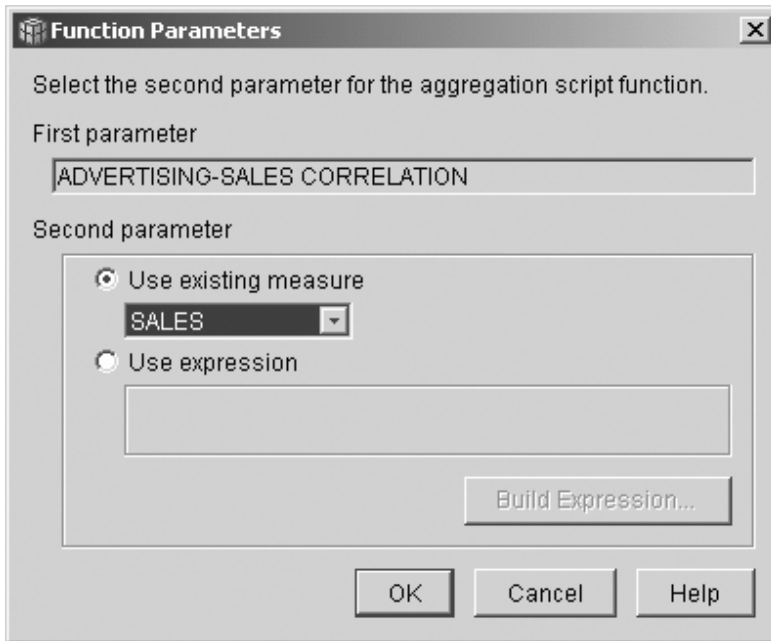

Figure 6. Sales measure specified as the second parameter in the Function Parameters window
7. Click the **Parameters** push button to specify the second parameter for the CORRELATION function. The Function Parameters window opens. Select **Using existing measure** and select **SALES**. Figure 6 on page 11 shows the Function Parameters window with the Sales measure specified as the second parameter. Click **OK** to save your selection and close the Function Parameters window.